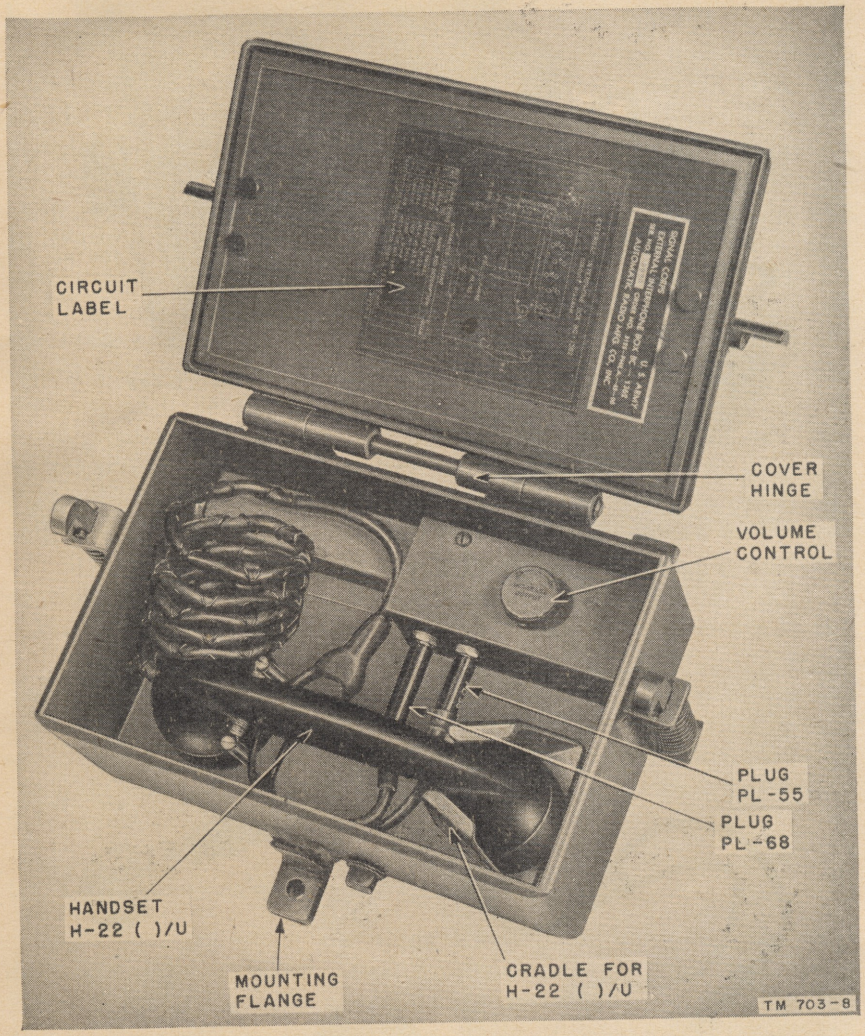
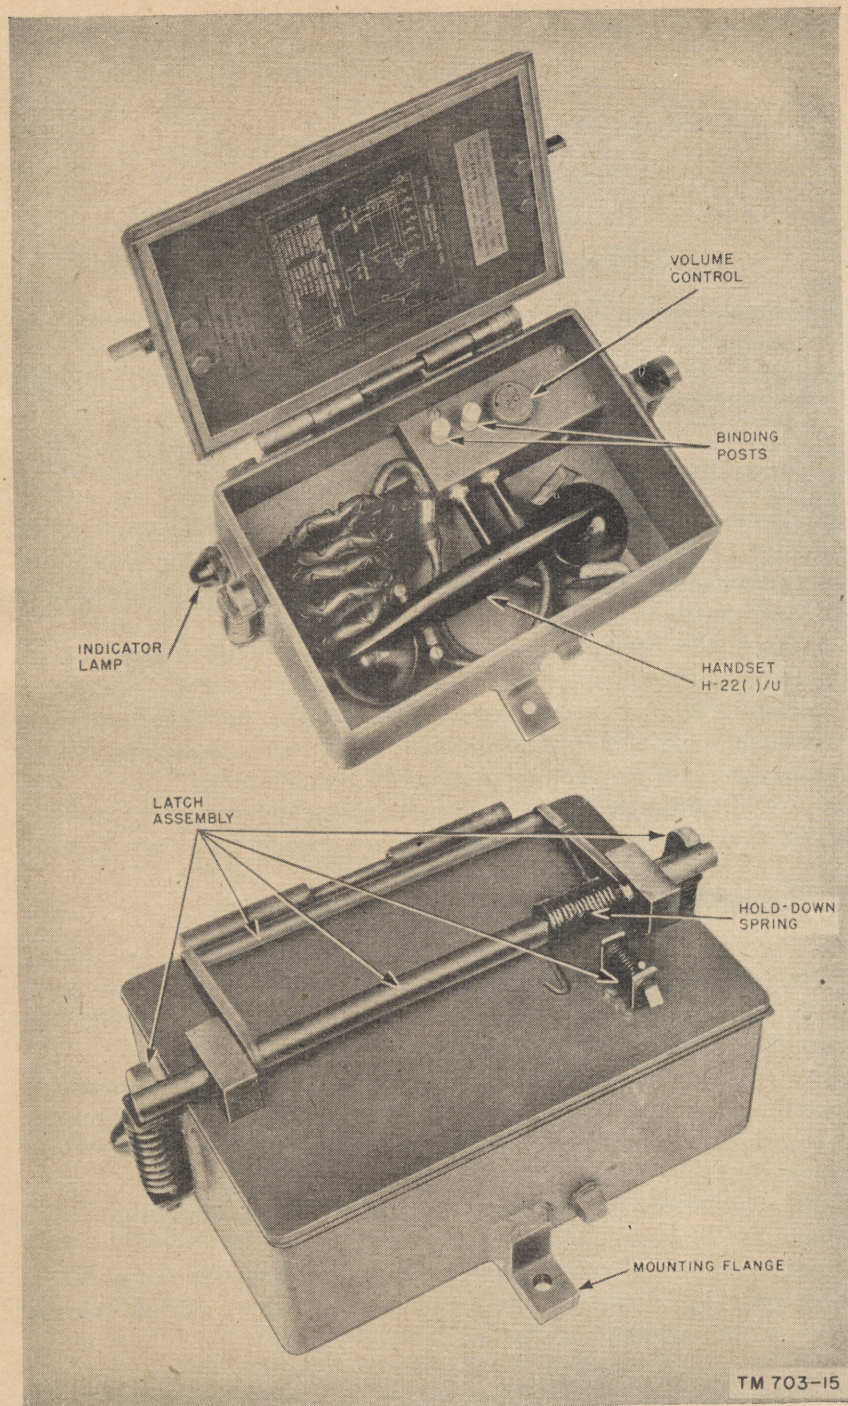

Figure 9. External Interphone Box BC-1362, interior view.
Figure 12. External Interphone Box BC-1362, later models containing binding posts.
a. **EXTERNAL INTERPHONE BOX BC-1362.** External Interphone Box BC-1362 is a $\frac{1}{4}$ -inch thick, steel box, approximately $11\frac{1}{2}$ inches long by $7\frac{1}{2}$ inches wide by $4\frac{1}{2}$ inches deep. The case is equipped with three projecting flanges for mounting the box on the outside rear of a vehicle. The volume control, terminal board for connections to Switchbox BC-1361, Handset H-22 ()/U and mounting bracket, and an indicator lamp are contained within the box (figs. 9, 10, and 11). Neoprene rubber gaskets under the box cover and a latch spring assembly provide a means of securing the cover so as to make the box watertight. Later models have two binding posts mounted next to the volume control for connecting the interphone system to an external field telephone (fig. 12).